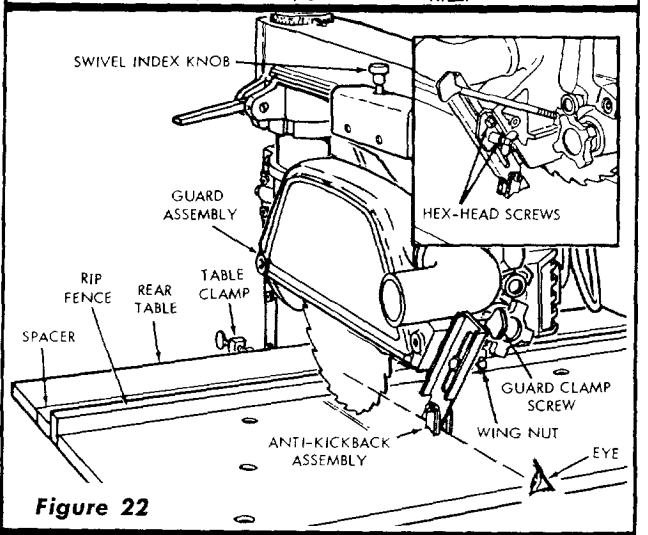
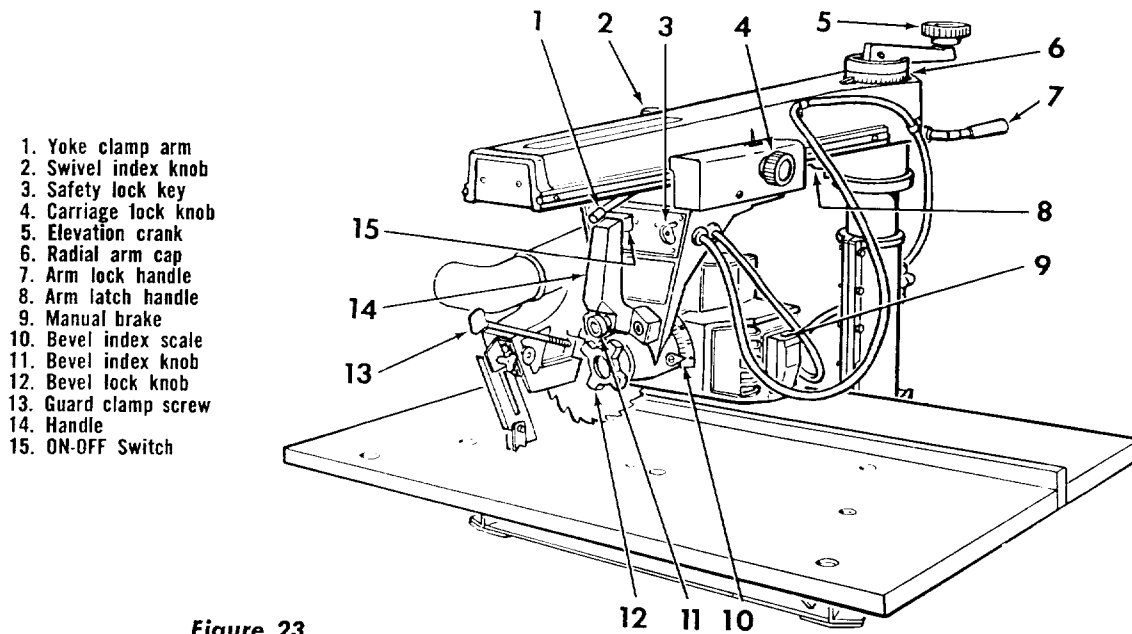

Figure 22
Figure 23
5. Install the guard assembly, making sure the locating notch on the guard engages with the mating "tongue" on the motor housing. Tighten the guard clamp screw finger tight. (See figure 22.)
1. Loosen the wing nut (figure 22) and raise the anti-kickback assembly to near maximum height. Tighten the wing nut.
2. Sight (visually) to check for proper alignment of spreader with saw blade, as shown in figure 22. If the spreader is not aligned, adjust it as follows:
OPERATING CONTROLS (See figure 23)
RAISING AND LOWERING THE RADIAL ARM is accomplished by the elevation crank (5, figure 23). One complete turn of this handle will raise or lower the radial arm 1/8-inch.
LOCKING THE CARRIAGE TO THE RADIAL ARM is accomplished by the carriage lock knob (4, figure 23). Turn the knob clockwise to lock; counterclockwise to unlock. Avoid excessive tightening of the knob.
ANGULAR MOVEMENT AND LOCKING THE RADIAL ARM are controlled by the arm lock handle (7, figure 23) and the arm latch handle (8). The radial arm can be rotated 360° and locked in any desired position. The arm is unlocked by loosening the arm lock handle and raising the arm latch handle out of the detent notch. It is locked by tightening the arm lock handle. The radial arm has positive stops at 0° and 45°, left and right, and is released from these index positions by raising the arm latch handle. In order to provide the most positive and accurate settings at the index positions, the following is recommended:
NOTE: The arm lock handle (7, figure 23) is shown on the right-hand side of radial arm. The handle can be removed and re-installed to position it on the left-hand side of the arm, if desired.
MOVEMENT AND POSITION OF THE MOTOR IN THE YOKE are controlled by the bevel index knob (11, figure 23) and bevel lock knob (12). The bevel index scale indicates the angular position of the motor with respect to the horizontal position, from 0° to 90°, in either vertical position. The bevel index knob indexes the motor at 0°, 45°, and 90°, up and down. Pull the knob out to release the motor from any of the index positions. At any other position, the bevel index knob is not engaged. The bevel lock knob locks the motor to yoke when the motor is in any position.
ROTATION AND POSITION OF THE YOKE are controlled by the swivel index knob (2, figure 23) and the yoke clamp arm (1). The swivel index knob automatically indexes the yoke at each 90° position and both 0° positions. Lift the knob to release it. The yoke clamp arm locks the yoke to the carriage in any position. Push the arm to the right to release it; push to the left to tighten.
The normal locking position of the yoke clamp arm (1, figure 23) is parallel with the radial arm. An adjustment will seldom be necessary; however, it may be accomplished as follows:
1. Loosen the carriage lock knob (4, figure 23), move the carriage out to the forward end of radial arm and tighten carriage lock knob.
A series of six diagrams are located on the top surface of radial arm in order to designate the controls that must be used in basic "set-ups" and operating procedures. (See figures 23 and 29.) The inexperienced operator should become familiar with these diagrams before operating the saw.
1. "DEPTH OF CUT". The diagram shows the elevation crank (5, figure 23) which is used to raise and lower the blade. A dark blue circle is on the crank handle.
2. "ANGLE OF CUT". Two levers are involved in releasing, securing and indexing the angle of radial arm. These are: arm lock handle (7, figure 23) and arm latch handle (8, figure 23), each marked with a yellow circle.
3. "YOKE PIVOT". Two controls are used in this operation. They are: swivel index knob (2, figure 23) and yoke clamp arm (1, figure 23), each marked with a dark olive green circle.
4. "CARRIAGE LOCK". The carriage lock knob (4, figure 23), is rotated clockwise to secure the carriage on radial arm, and counterclockwise to release it. An orange circle is at the center of the knob.
5. "BLADE ANGLE". The two controls used in angular positioning and indexing of the motor to provide the desired saw blade angle are: bevel lock knob (12, figure 23) and bevel index knob (11, figure 23). A light blue circle is attached to each of these controls.
6. "POWER CONTROL". The ON-OFF switch (15, figure 23) is located in the upper left-hand area of the carriage and has a red circle directly under it.
1. Loosen the carriage lock knob (4, figure 23) and move the carriage to position the saw just forward of the rip fence. (See figure 22.)
3. Tighten the carriage lock knob (4, figure 23.)
CAUTION: Before making the cut, make sure the arm latch handle (8, figure 23) is fully engaged in the detent notch.
- a. Grasp the handle (14, figure 23) with the left hand and loosen the carriage lock knob (4, figure 23) with the right hand.